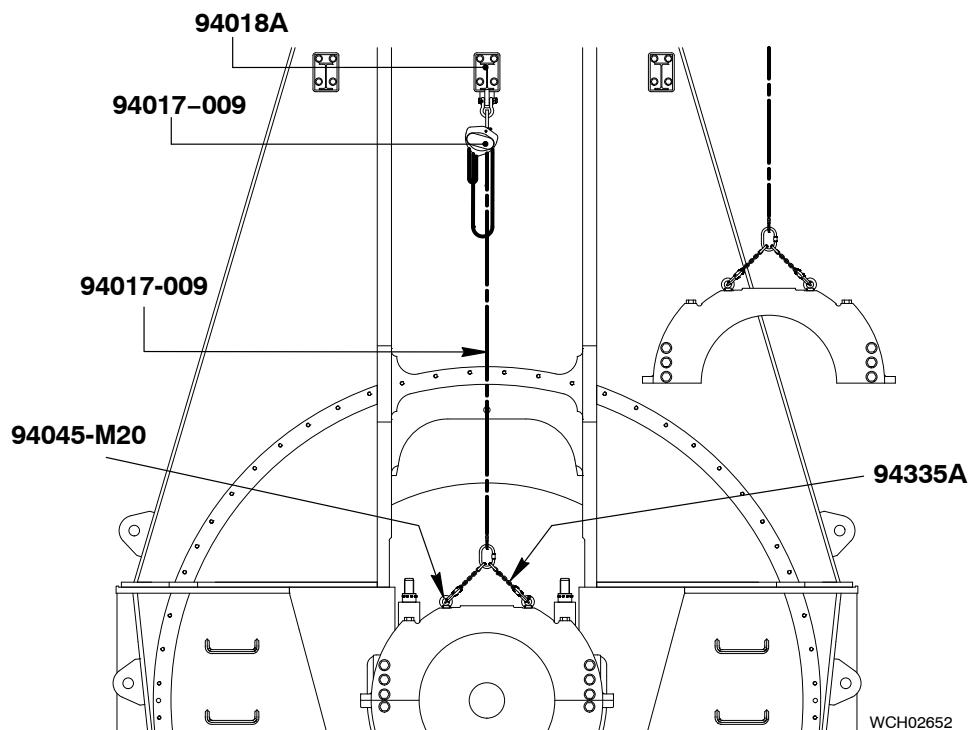

Fig. 3
- 5) Attach two eye bolts (94045-M20, Fig. 3) to the top part of the cylinder.
- 5) Operate the engine room crane and the spur-gear chain block (94017-009, Fig. 3). Move the top part of the cylinder into position above the bottom part of the cylinder.